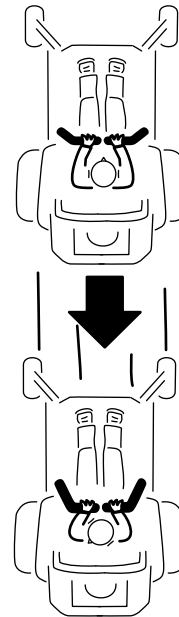

Figure 23
2. To go backward, slowly pull the motion-control levers rearward (Figure 23).